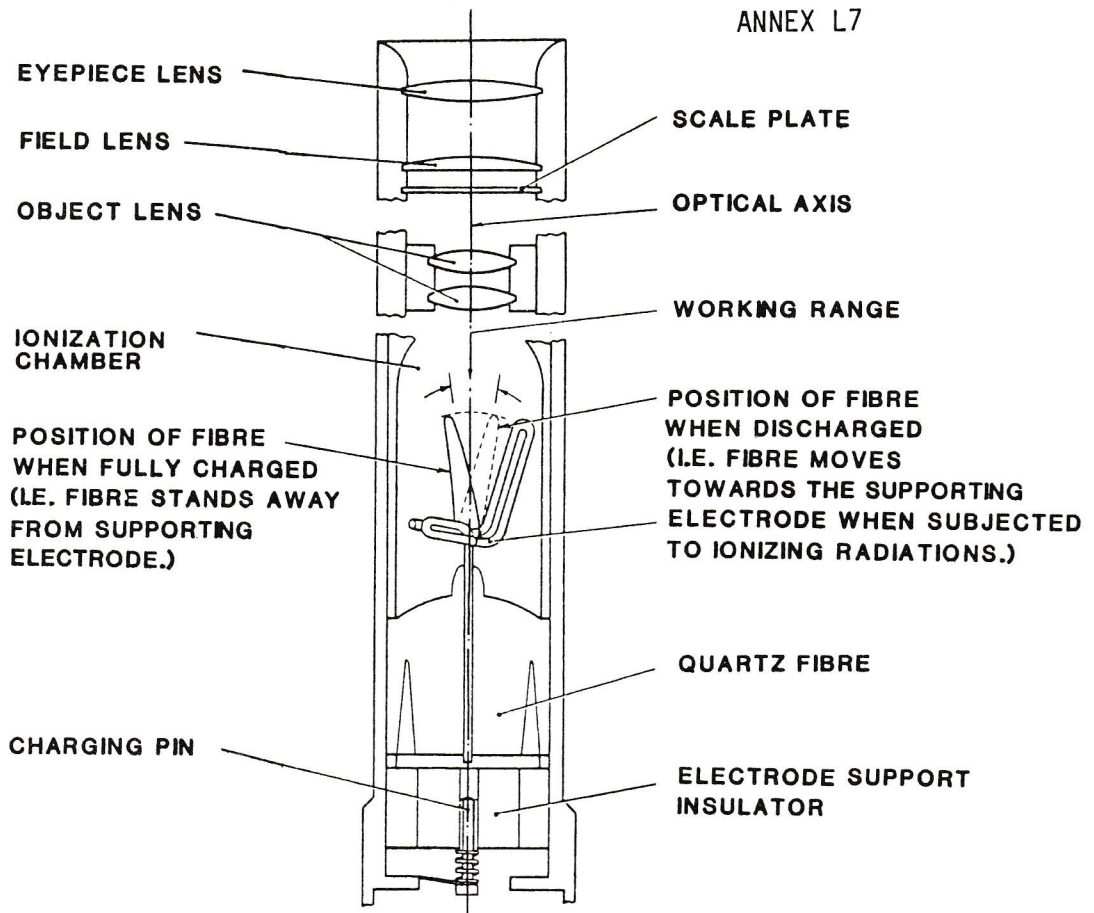

Fig L7.3
7. The effect of radiation on the ionization chamber is to make the air inside it, normally a good insulator, a poor one. This causes some of the charge on the electroscopes to leak away, allowing the quartz-fibre to move back towards its supporting wire and so up the scale from zero (see Fig L7.3). The stronger the radiation or the longer the exposure to radiation, the greater will be the reduction of the charge and the higher will be the reading indicated on the scale.